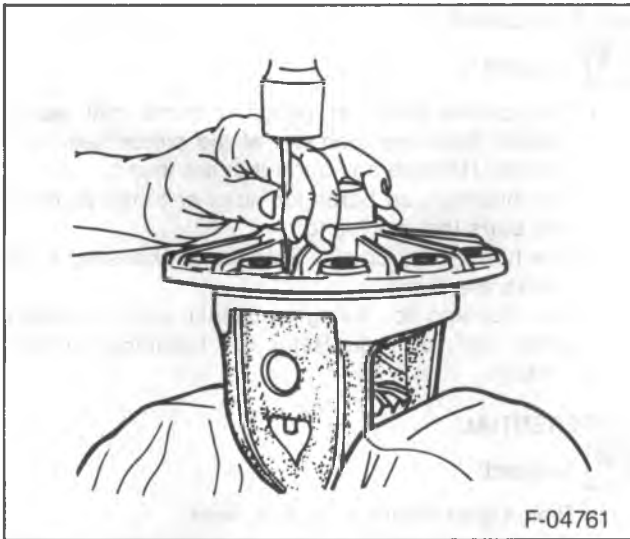

Figure 8—Removing the Lock Pin
- 11. Ring gear (2) from the differential case using a rawhide hammer.
- Ring gear (2) from the vise.
- 12. Lock pin (29) from the differential using a hammer and a punch (figure 8).